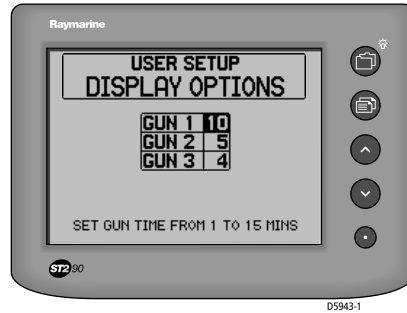

Figure 2-16: Race timers setup
1. With the race timers page displayed (*Figure 2-16*), use the ▲ or ▼ button to highlight the required timer (GUN 1, GUN 2 or GUN 3).